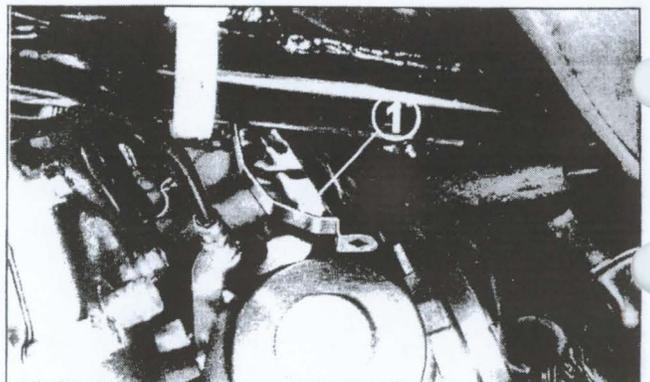

Fig. 4-96 (1) Connecting joint
2. Connect the connecting joint properly as shown in Fig. 4-96.